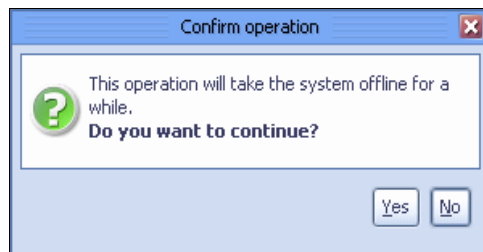

Figure 10-43 Delete cartridge confirmation window
6. Click **Yes**. While the cartridge is being deleted, the window shown in Figure 10-43 opens.